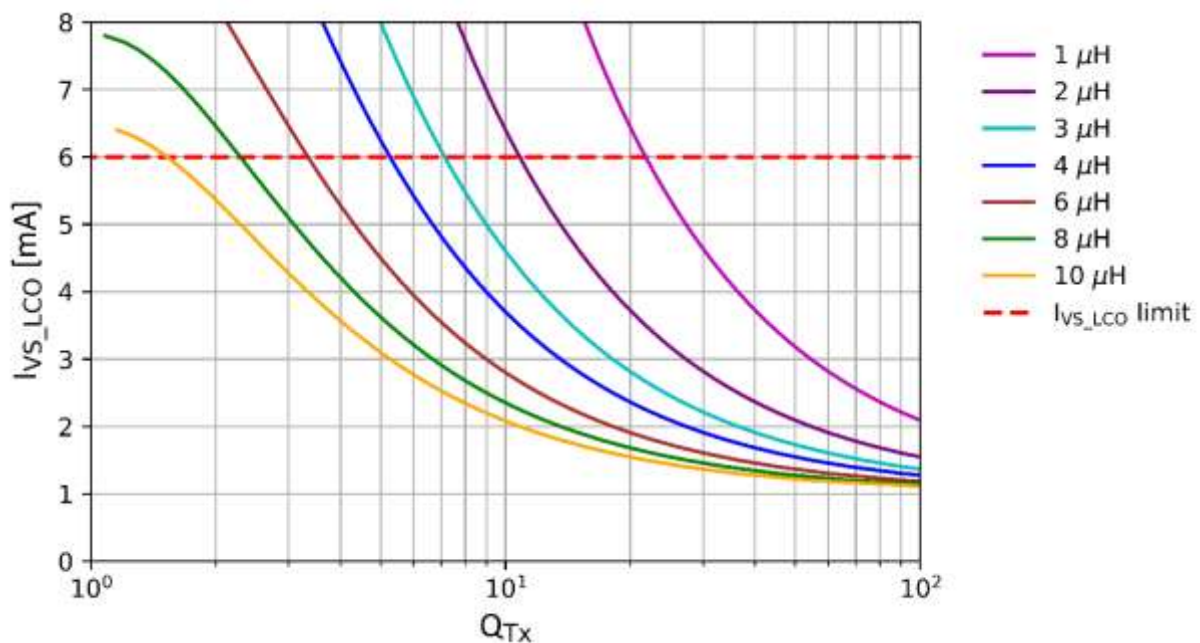

Figure 5 – I_{VS_LCO} as function of Q_{Tx} for LCO frequency of 3.5 MHz
- [1] Assuming a typical oscillator current consumption I_{VS_LCO} = 3 mA (see Figure 5)
- [2] Including a maximum oscillator current consumption I_{VS_LCO} = 6 mA (see Figure 5)
- [6] See Figure 5 for relation between Q_{Tx} and I_{VS_LCO} (typical conditions).